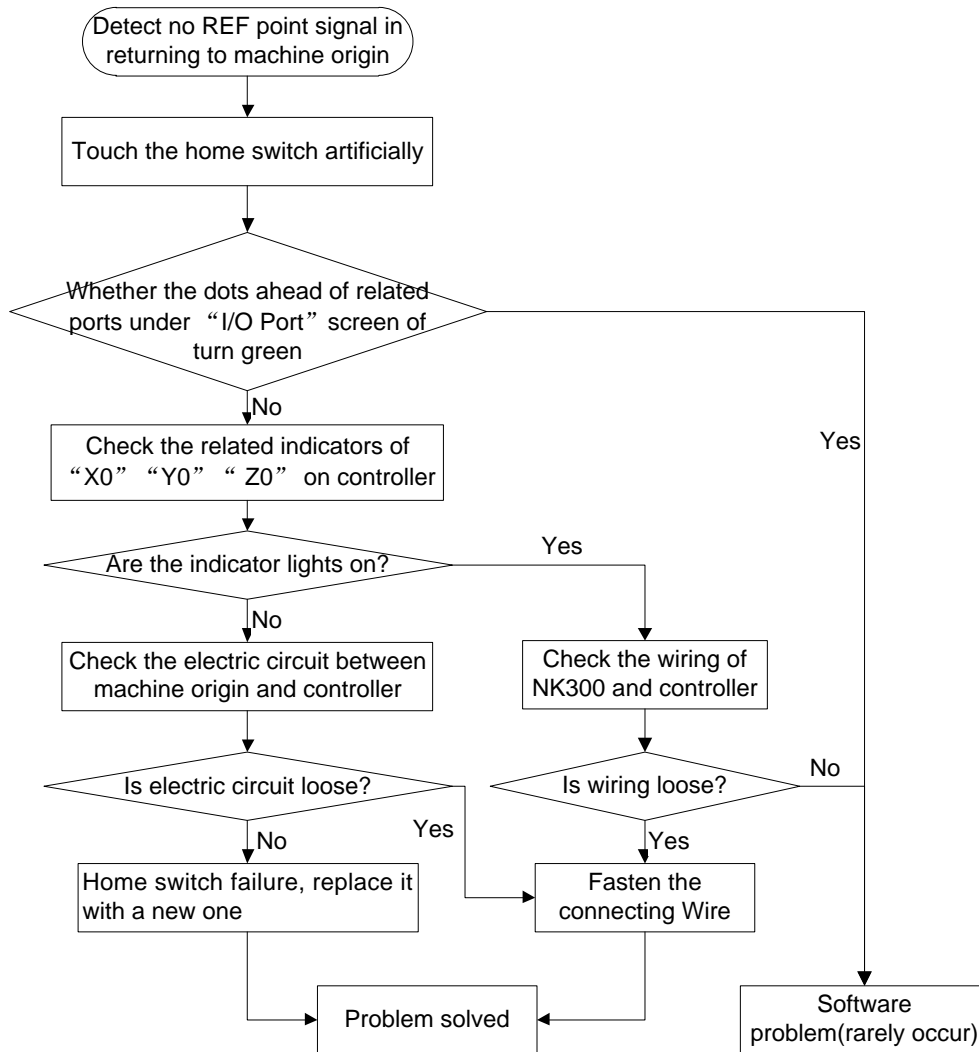

Fig. 3-10 Debugging Steps
1. REF. point signal cannot be detected in the process of returning to machine origin. It is generally caused by home switch fault. The adjusting & debugging steps are as shown in Fig. 3-10.